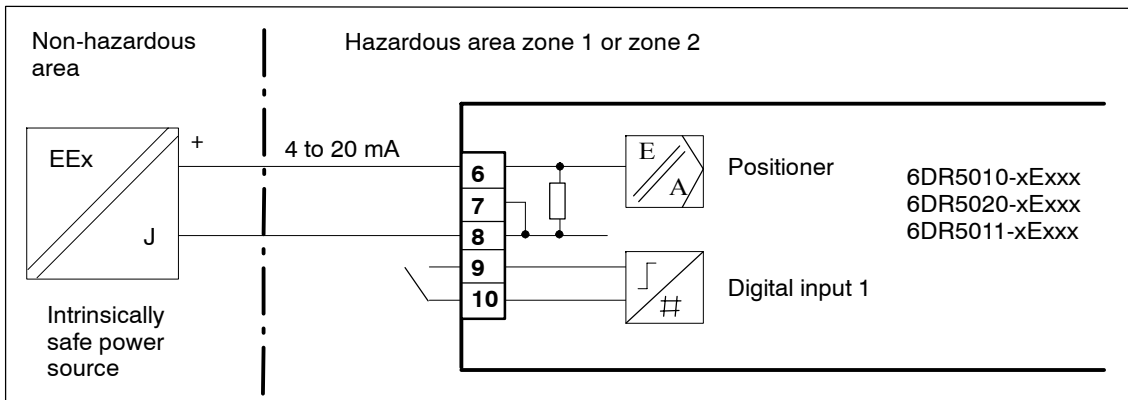

Figure 3-19 Two-wire connection, EEx i
4. Connect a suitable current or voltage source (see figure 3-13, page 52 and figure 3-19, page 55).
5. The positioner is now in the operating mode "**P-manual operation**". The current potentiometer voltage (P) is displayed in percent in the top line of the display, e.g.: "**P12.3**", and "**NOINI**" flashes in the bottom line: